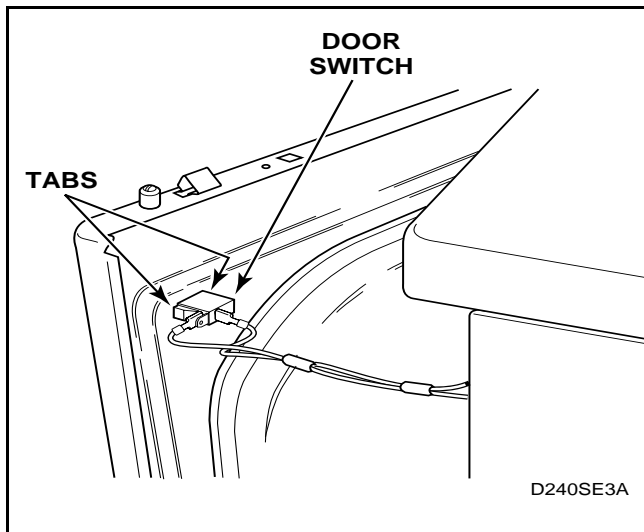

Figure 11
- Disconnect wires from door switch. See Figure 11.